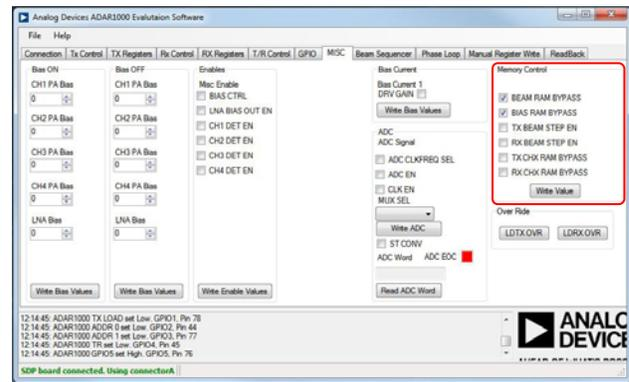

Figure 7. Placing the Device in RAM Bypass Mode
1. Click the **MISC** tab (see Figure 7).